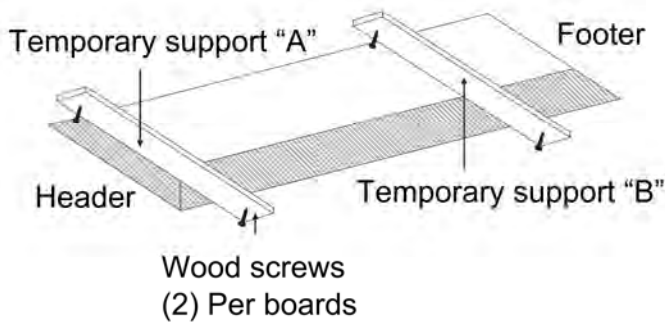
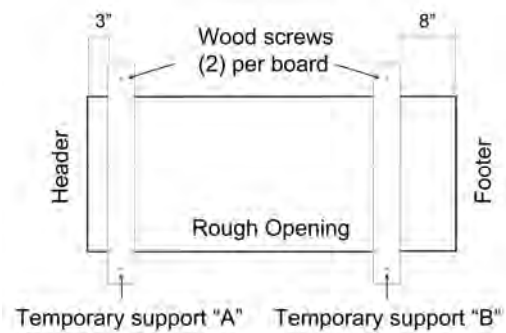

FIGURE 8 : BOARD SUPPORT INSTALLATION
FIGURE 9 : BOARD SUPPORT LOCATIONS
F. Attach temporary supports boards “A” and “B” (1” x 4” x 32”) with 2-1/2” wood screws (not included). Support “A” will be 3” from the rough opening at the header/hinge end. Support “B” will be 8” from the rough opening at footer end. Be sure to follow these board placement dimensions so the temporary support boards do not hinder the remaining installation steps. See **Figure 8** and **Figure 9**.